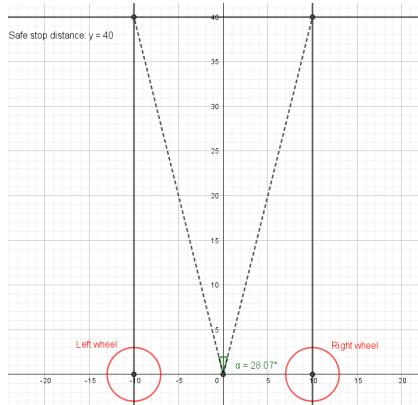

Fig. 4. Blind angles
*3) Checking the blind angles:* In addition to the three directions we had already implemented, we decided to focus on two more directions; the so-called blind angles. These were meant to make the robot able to avoid an obstacle if it was only slightly in front of it, but not so much that the average would get low enough. We calculated these by measuring the minimal distance between two obstacles that robot could drive through - that is, the width of the robot, which we measured to be 20cm. We wanted the robot to begin avoiding the obstacles at the blind angles from a distance of 40cm. We got the result as depicted in figure 4. We also wanted these angles to be very narrow such that the robot would be able to detect even a small corner of some obstacle. For this reason we only looked at a span of 8 degrees.